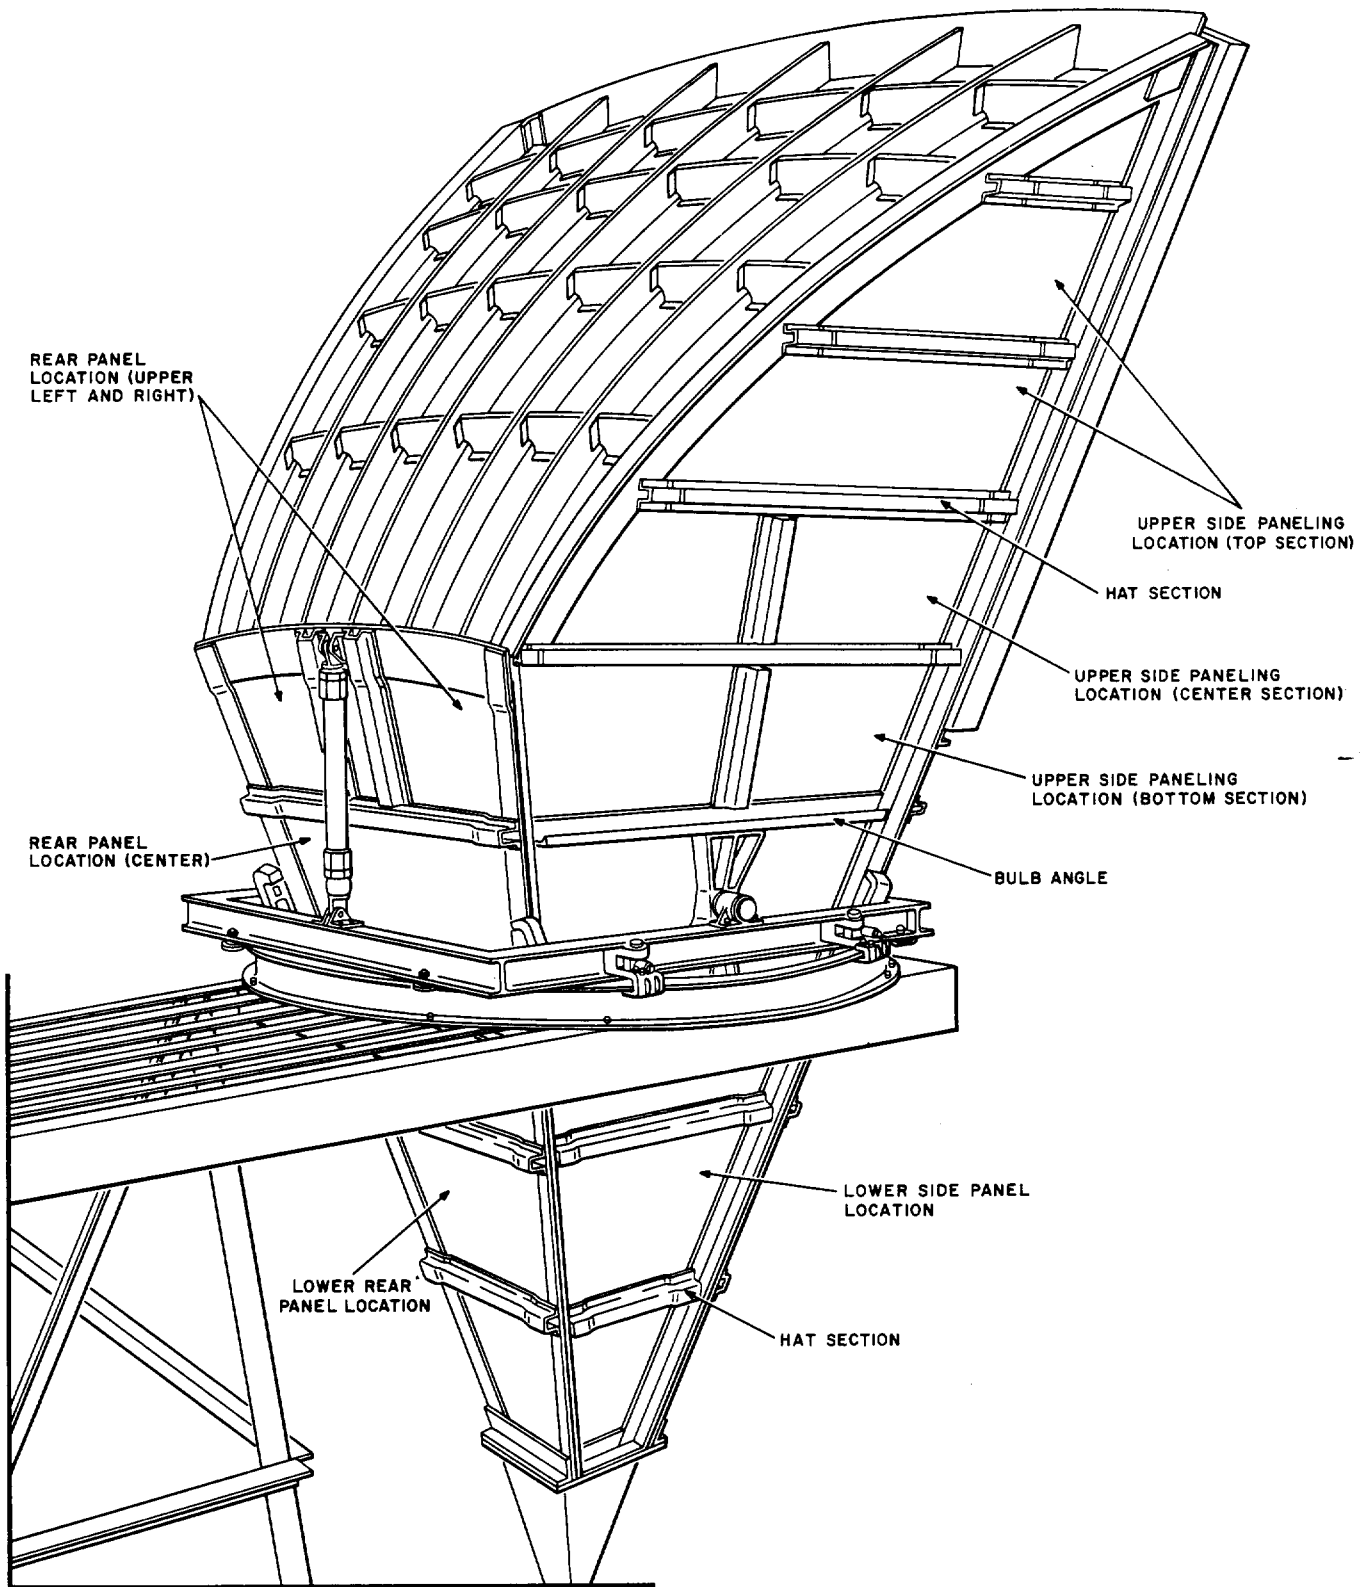

Fig. 1 — KS-15676 Horn-Reflector Antenna
1.02 Hardening of the KS-15676 L8 or L9 horn-reflector antenna is accomplished by reinforcing the lower edge of the window or weather cover and by adding an external skin of aluminum to the existing structure. The modified antenna will withstand blast overpressures of approximately 2 psi without suffering structural damage or affecting transmission. The modification kits can be applied to tower-mounted antennas without taking them out of service. Fig. 1 illustrates the KS-15676 horn-reflector antenna and identifies the locations of the major components of the modification kit.